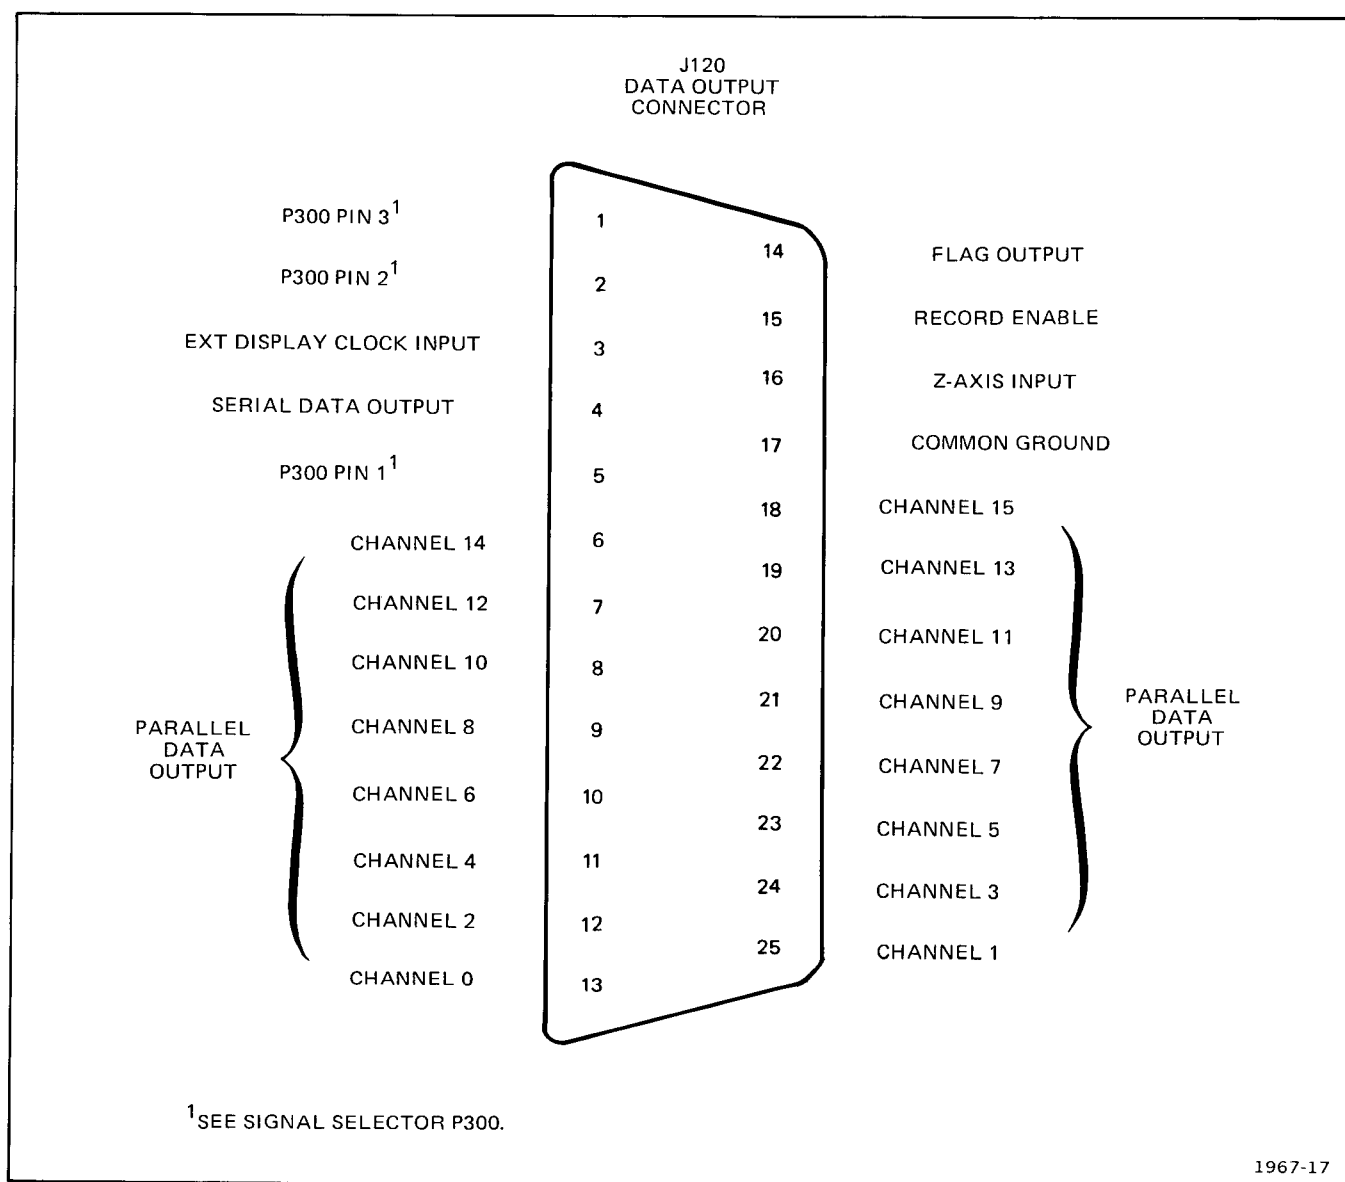
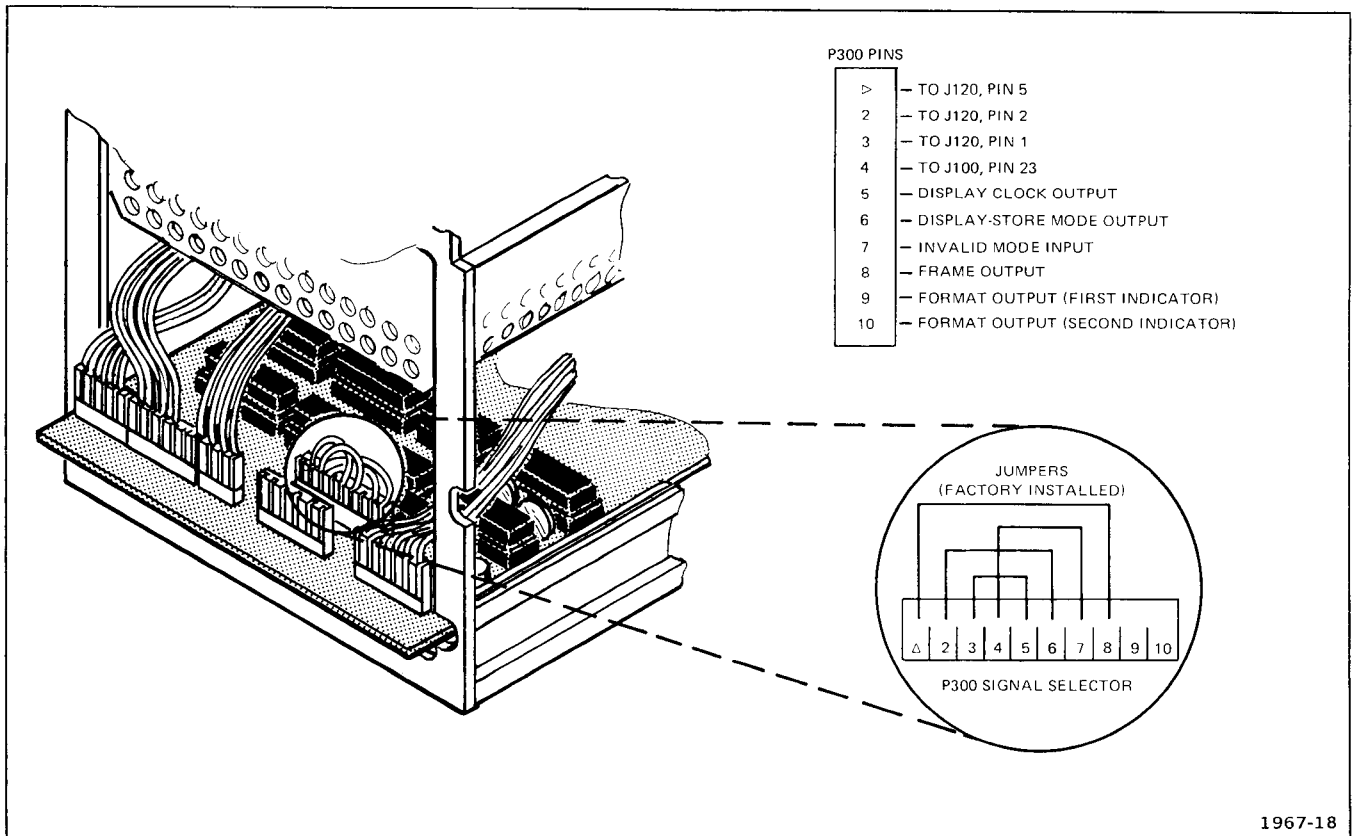
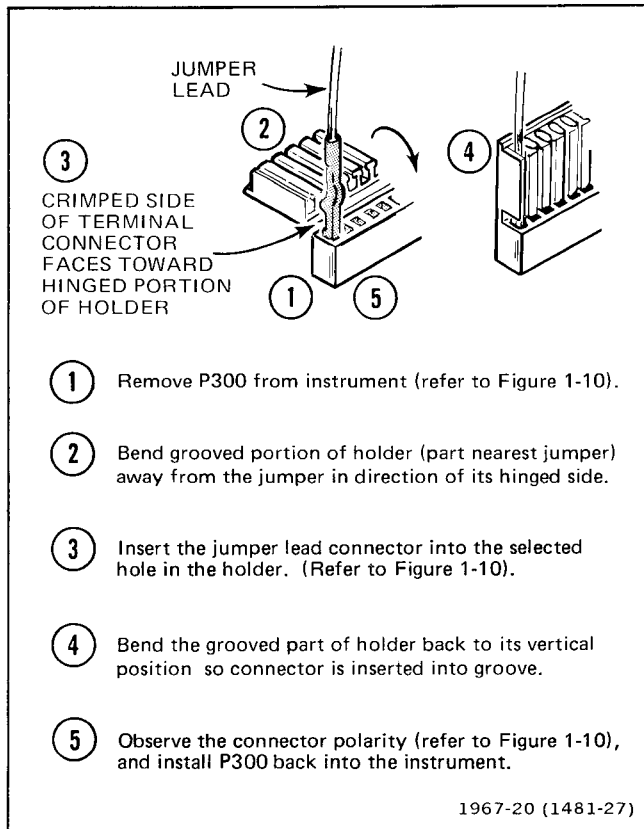

Fig. 1-9. Pin assignments for the DATA OUTPUT connector, J120.
Fig. 1-10. Location of Signal Selector P300, and P300 pin assignments.
Fig. 1-11. P300 jumper placement procedure.
Internal multi-pin connector, J120, provides several functions. Figure 1-9 identifies the DATA OUTPUT connector pin assignments. As shown in Figure 1-9, three of the pins of J120 are connected to Signal Selector jumper, P300. At the factory, P300 is wired to make signal-line connections to these pins as shown in Figure 1-10. The connections can be changed to different signal lines if desired. For further information, see P300 Signal Selector in this section. The functions provided by the Data Output connector are described as follows:
Internal multi-pin jumper-connector, P300, provides selection of several input and output signal lines to the DATA INPUT, J100, and DATA OUTPUT, J120, connectors. Figure 1-10 shows the location of P300 and identifies the pin assignments. Figure 1-10 shows the jumpers as they are installed at the factory. To change the connections for different requirements, see Signal Selection with P300 in this section.
**SIGNAL SELECTION WITH P300.** To change the signal selections to the DATA INPUT (J100) and DATA OUTPUT (J120) connectors shown in Figure 1-10, perform the procedure shown in Figure 1-11.